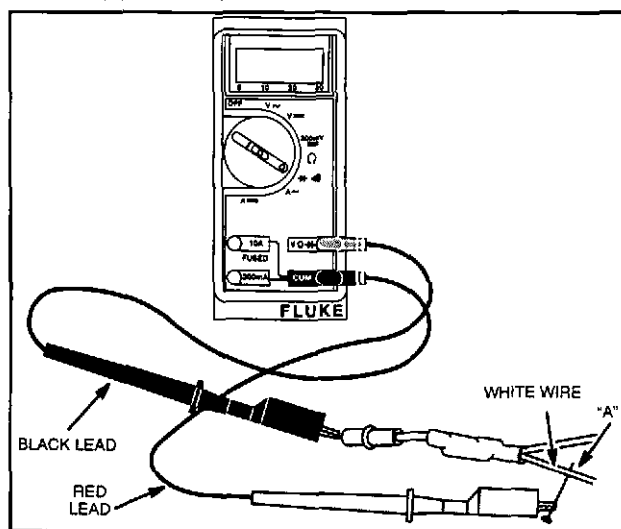

Fig. 19 - Diode Testing - Lighting Circuit
4. Attach RED test lead clip to point "A,"(white wire) Fig. 19. (It may be necessary to pierce wire with a pin as shown.)